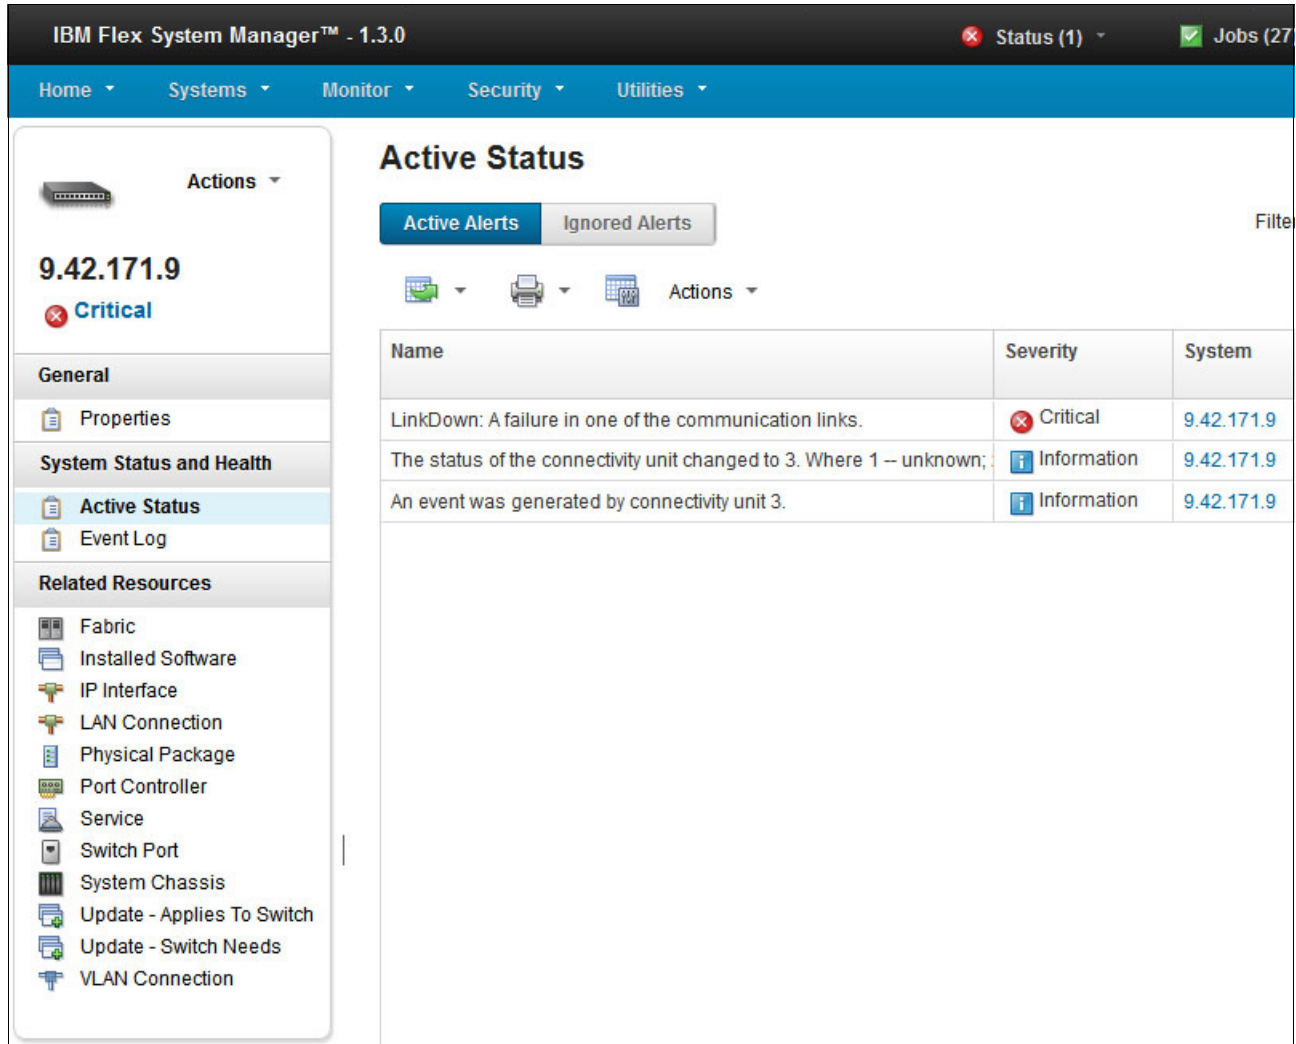

Figure 7-11 FSM Explorer: Active Status window
- The Active Status window provides a centralized interface that you can use to get a quick snapshot of the resources that trigger a status set entry. Currently, only entries that are related to the selected I/O module are listed, as shown on Figure 7-11. You also can ignore status-set entries to prevent them from displaying with an elevated status in the future.